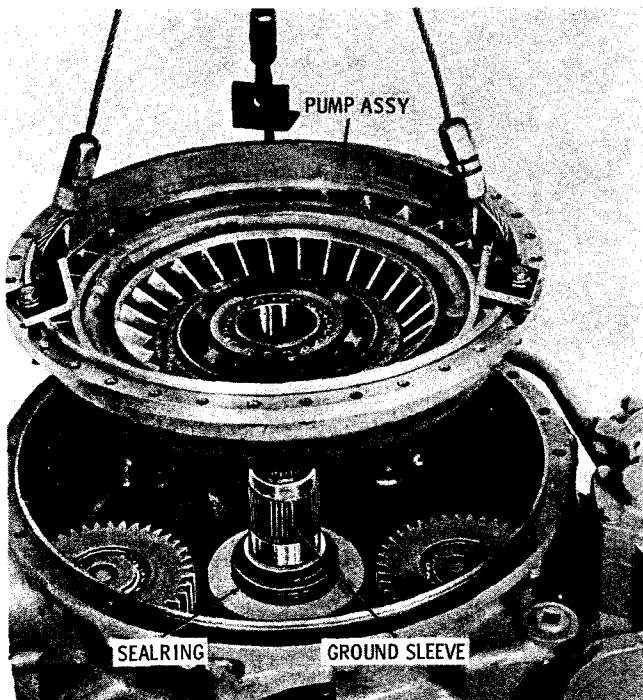

Fig. 5-31. Removing converter pump assembly
(11) Attach a lifting sling to the converter pump and remove the pump from the converter ground sleeve (fig. 5-31). Refer to paragraph 6-16 for rebuild of the pump assembly.
(12) Remove the two hook-type sealings (one step-joint Teflon sealing on later models) from the ground sleeve (fig. 5-31).